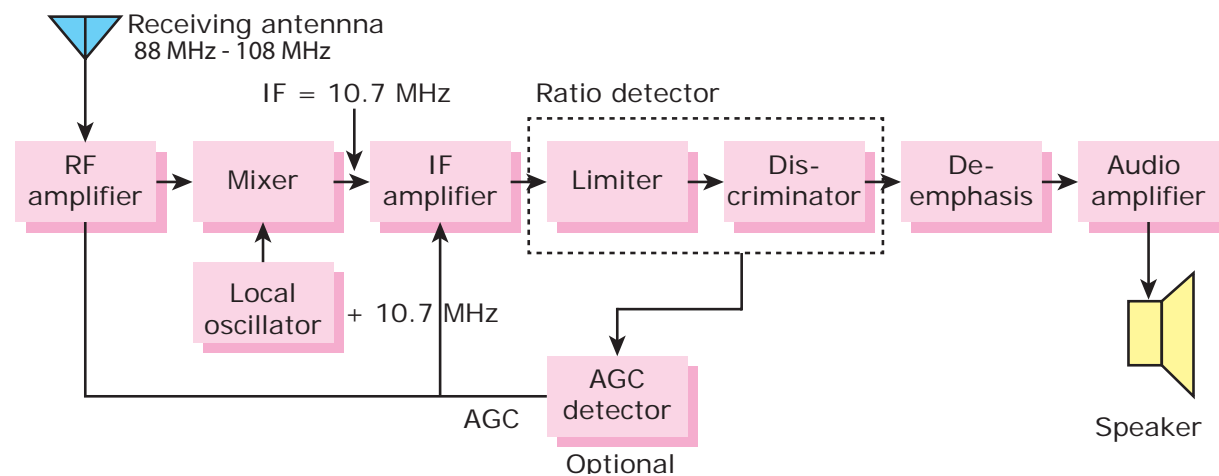

FIG 3.9 FM receiver Block diagram
A receiver which receives frequency modulated radio signals is called frequency modulation (FM) radio receiver. It is also called as superhet receiver. Fig 3.9 shows the block diagram of FM receiver.